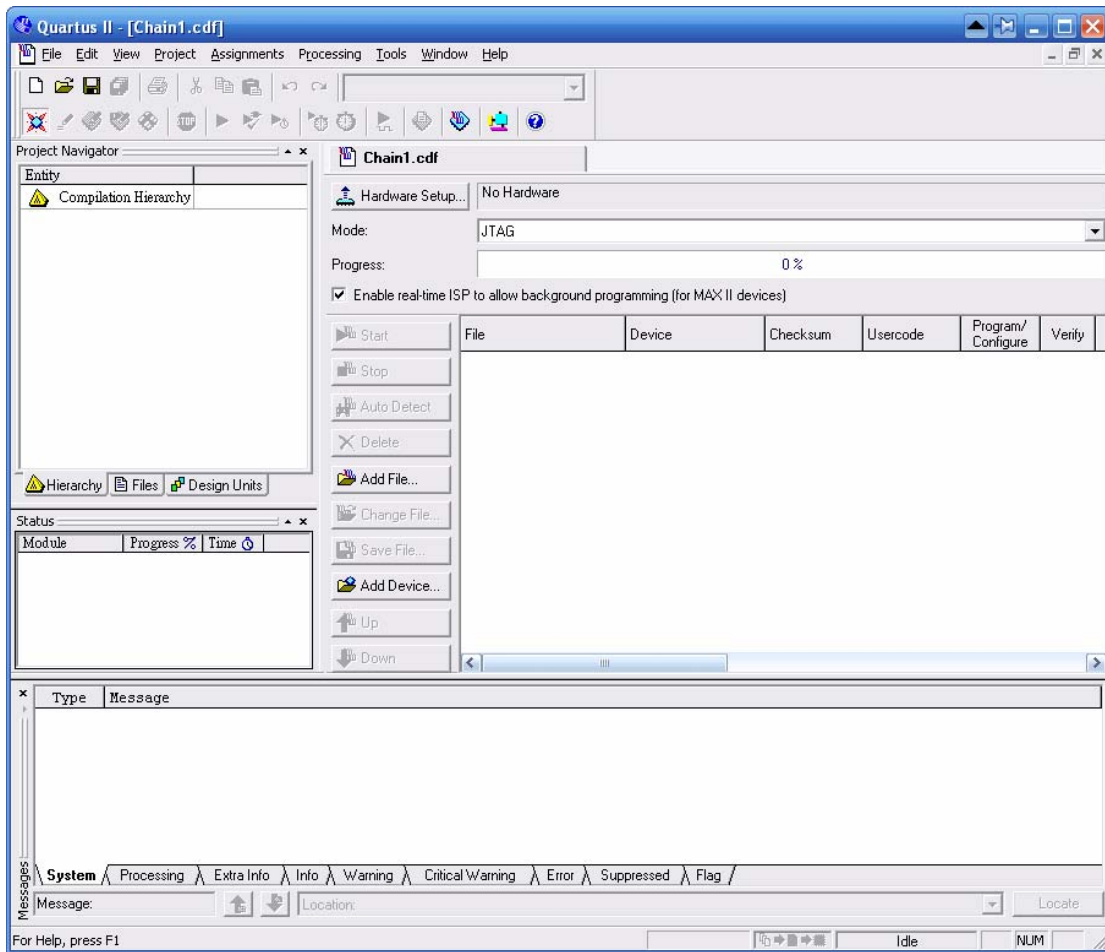

Figure 8. Programmer window
- Step 4.** Open Quartus II software, Choose **Tools** > **Programmer**. The Programmer window opens. See Figure 8.